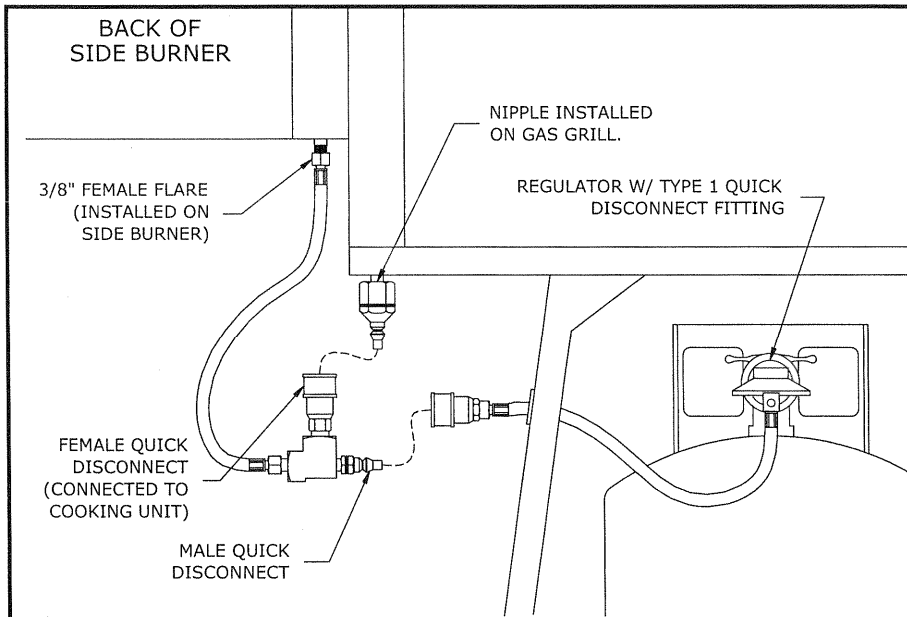

Figure 4. Gas Connection
4. Connect the female quick disconnect end of the regulator hose assembly to the male quick disconnect end of the integral hose and tee assembly. (see Figure 4.)